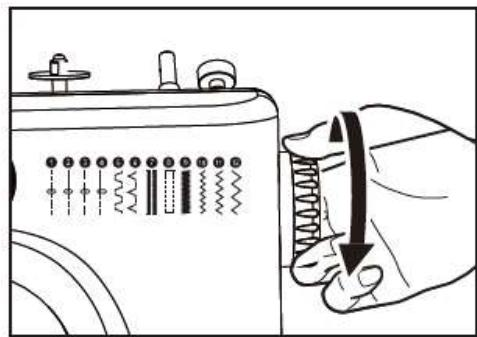

Fig.14
- When you finish the sewing, turn off the switch, unplug the adapter, turn the hand wheel to raise the needle all the way up, lift the presser foot, and then gently remove the fabric from the sewing machine, and cut the thread with the thread cutter (Fig.14).